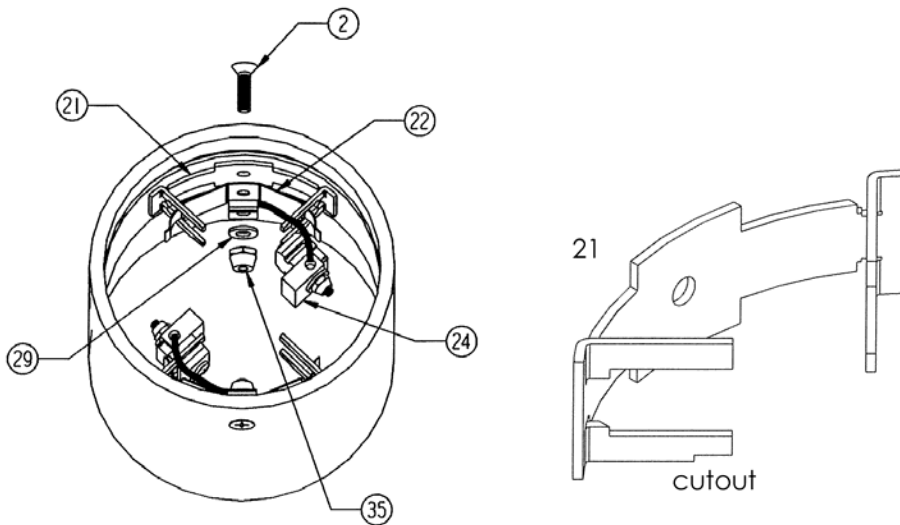

Fig 13: Negative Brush Installation
6) Negative Brush replacement: Install new Brushes (#24). First insert the brush mounting bracket in the brush bracket slot with the tab cutout (cutout) facing down (#21) and the brush spring (#22) with mounting screw (#2) followed by the brush (#24). Ensure the brush wire on mounting tab is on top with the exposed copper wire against the spring (Refer to Service Inspection Limits for torque). Note: ensure the brush bracket is parallel to the rim of the Comm Can and the brush springs compress completely without binding on the brush guides. (see figure 13)